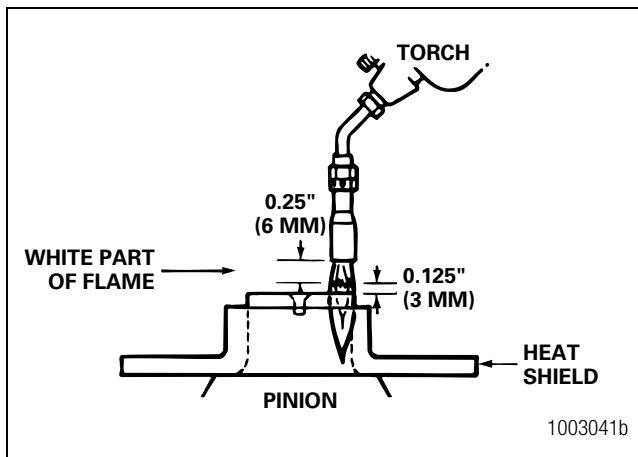

Figure 5.10
4. Light and adjust the torch until the white part of the flame is approximately 0.25-inch (6 mm) long. Keep the white part of the flame approximately 0.125-inch (3 mm) from the top of the stem. Figure 5.10. Move the flame around the outer diameter of the top of the pinion stem. The green temperature indicating liquid will turn black before the blue liquid does. Heat the stem until the blue liquid turns black at a point in the middle of the window.